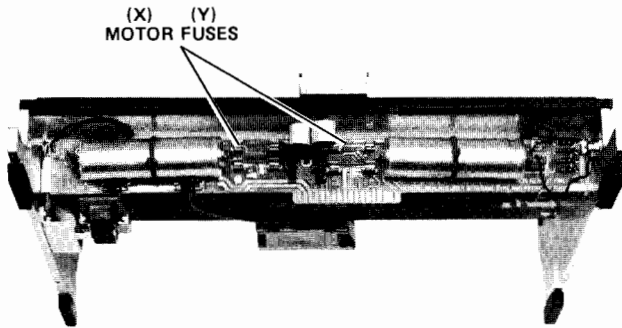

Figure 6-29. Motor Fuses, Located on the Main Cable PCA
- c. Replace fuse(s) and reassemble in reverse order of removal. (See Figure 6-29.)